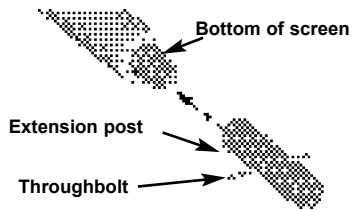

Figure 11: Optional extension post
1. If used, install the optional extension post to the bottom of the screen tubing. Set the height so that the bottom of the screen will be in the correct position once the screen is hoisted into place. Use the throughbolt to set the position. Refer to Figure 11.